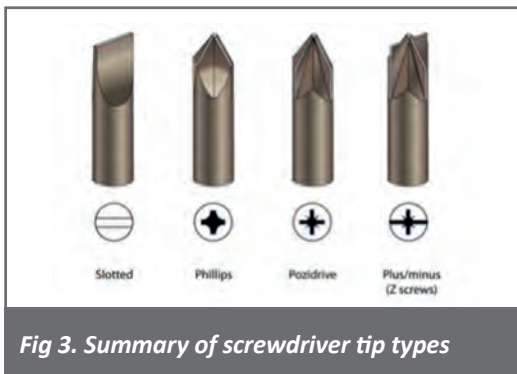

Fig 3. Summary of screwdriver tip types
- Choose a screwdriver that correctly fits the screwhead (*Fig 3*) – consumer unit manufacturers can advise on this.